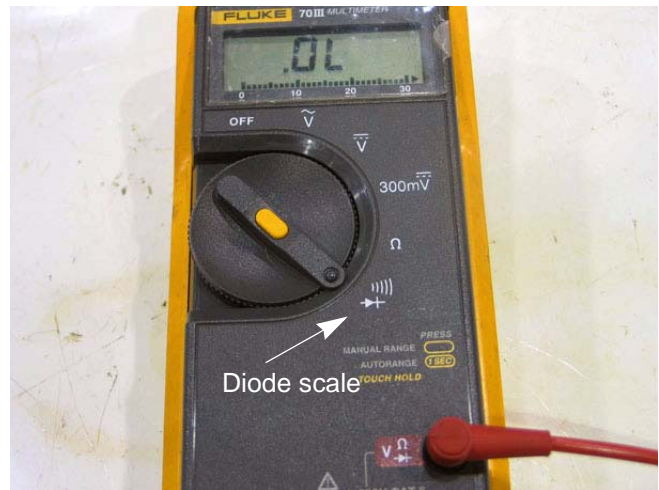

Figure 7.62
2. Set the DMM to the diode or Ω scale. See Figure 7.62.